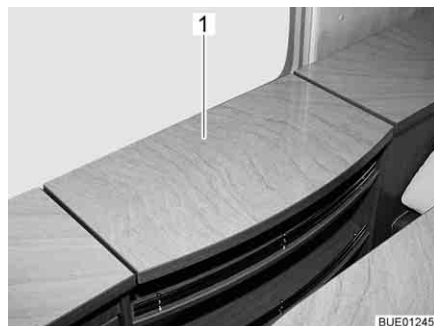
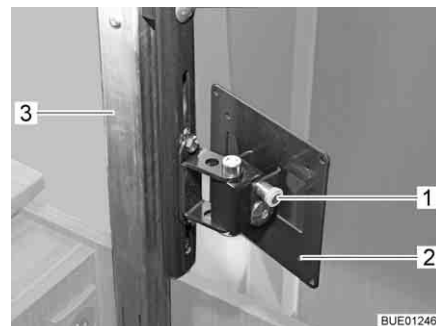

Fig. 51 TV compartment
Fig. 52 Lifting mechanism
- Lightly depress the cover (Fig. 51,1) of the TV compartment in the centre. The extension column (Fig. 52,3) is released and starts to move upwards.
- Pull the release knob (Fig. 52,1) and swivel holder (Fig. 52,2) with flat screen to the desired position.
- Turn the flat screen back into the original position until holder (Fig. 52,2) engages in the lock.
- Press the middle of the cover (Fig. 51,1) downwards against the resistance of the extension column (Fig. 52,3) until the locking mechanism engages.